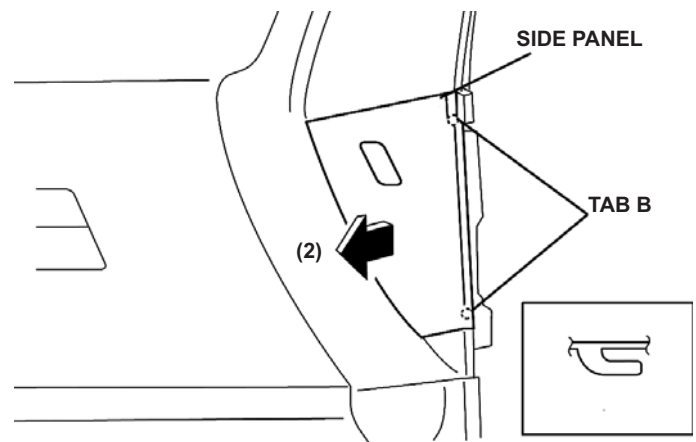

FIGURE 20
- 2.) PULL THE SIDE PANEL IN THE DIRECTION OF ARROW (2) WHILE DETACHING TABS B. (SEE FIGURE 20)